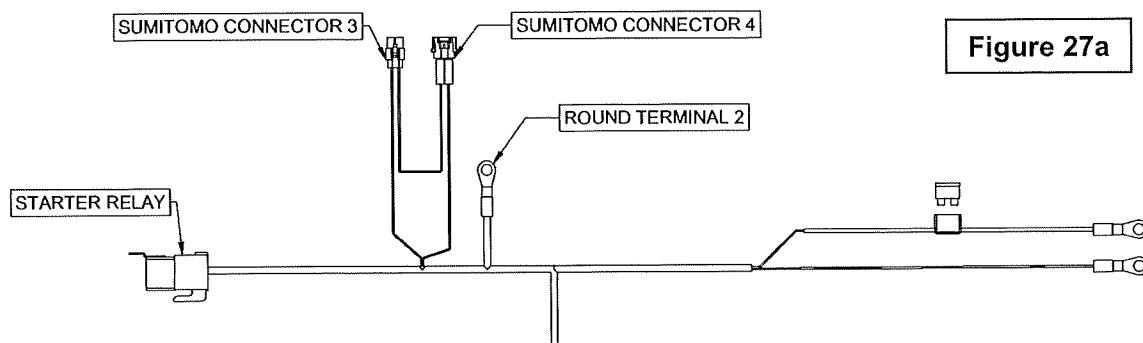
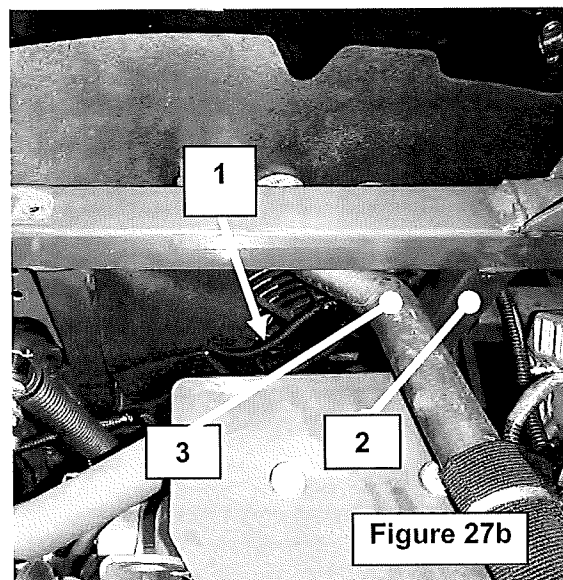

Figure 27a
Figure 27b
9. **Figure 27b:** Run the wire section (item 1) shown in **figure 27a** in front of the vertical tube (item 2) and run under the radiator hose (item 3).